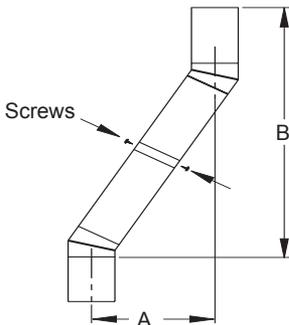

Figure 14 - Elbow Offset
1. To achieve desired offset, you may install combinations of 12", 18", 24", 36" and 48" length of double wall pipe (see offset chart and Figure 14).
- Maximum length of pipe between supports (return elbow or 12S-8DM) is 6' of angle run. Maximum of two 6' angle run sections per chimney system (see Figure 14).